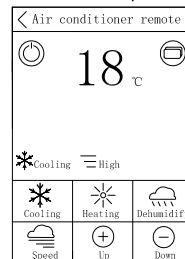

Fig. 3
- 2.) Control remote: select remote control ID to enter the remote control interface (as shown in Fig. 3). For the first time use, enter remote control configuration interface, set the remote control according to its work instructions.